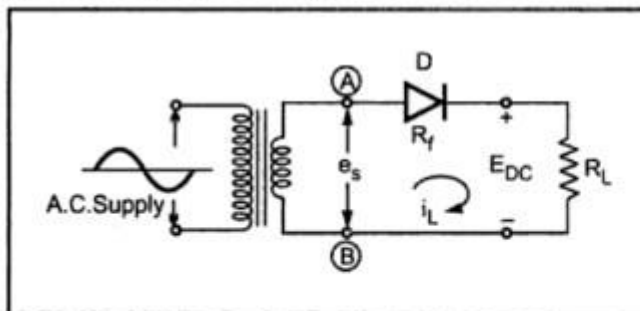

Fig. 3.2 Halfwave rectifier
This rectifier circuit consists of resistive load, rectifying element, i.e. p-n junction diode, and the source of a.c. voltage, all connected in series. The circuit diagram is shown in Fig. 3.2. Usually, the rectifier circuits are operated from ac mains supply. To obtain the desired d.c.voltage across the load, the a.c. voltage is applied to rectifier circuit using suitable step-up or
The input voltage to the half-wave rectifier circuit shown in Fig. 3.2 is a sinusoidal a.c. voltage, having a frequency which is the supply frequency, 50 Hz.
During the positive half cycle of secondary a.c voltage, terminal (A) becomes positive with respect to terminal (B). The diode is forward biased and the current flows in the circuit in the clockwise direction, as shown in Fig. 3.2. The current will flow for almost full positive half cycle. This current is also flowing through load resistance  $R_L$  hence denoted as  $i_L$ , the load current.